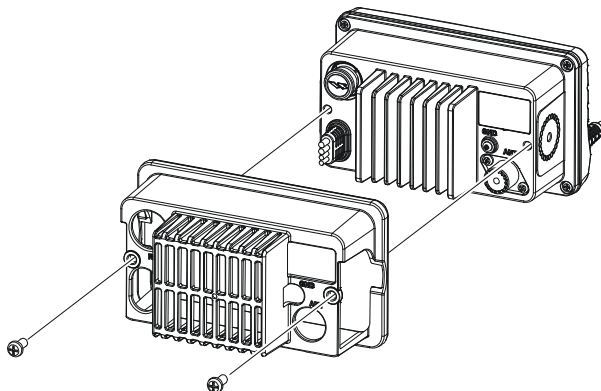

FIGURE 1
1. Referring to Figure 1, remove the protect cover and its two mounting screws from the **GX1600E**. Save the protect cover and its two mounting screws. They should be reinstalled when you do not the flush mount operation.